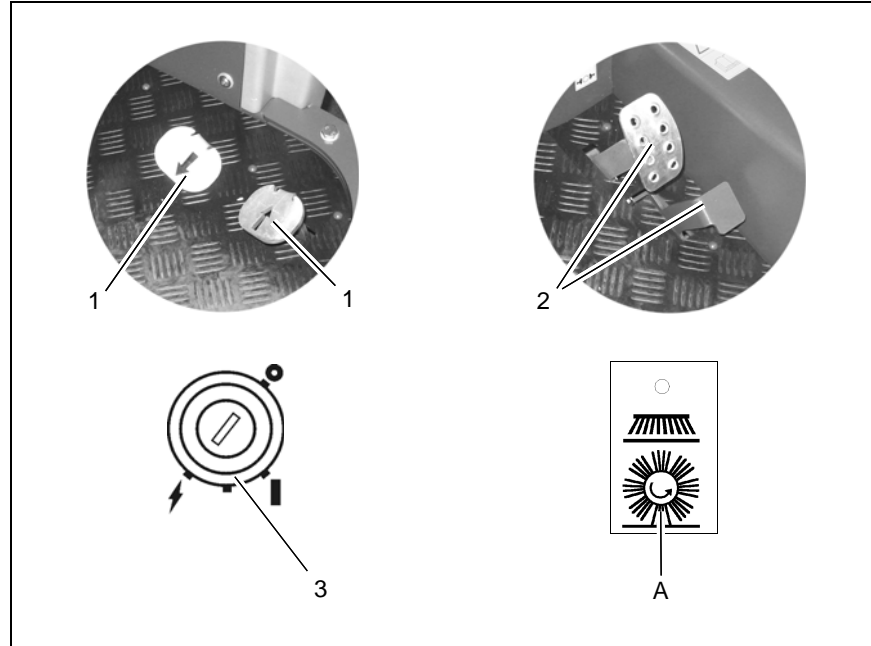

Fig.6
1. Move the accelerator (Fig. 6/1) slowly to its zero setting. The vehicle slows down to a stop.
2. Apply the parking brake (Fig. 6/2) to its end position and lock in place.
3. Switch off the sweeping functions with the button (Fig. 6/A). The filter agitating system is activated.
4. Switch off the engine with the ignition key (Fig. 6/3).